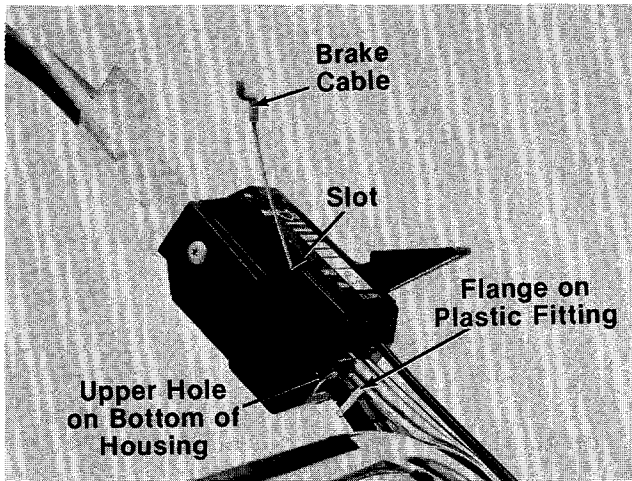

FIGURE 4.
5. Secure the other side of the handle with curved head bolt (B), lock washer (C) and hex nut (D).
- ← 6. Place the end of the brake cable into the upper hole on the bottom of the throttle control housing, and through the slot as shown in figure 4. The angle of the flange on the plastic fitting must be positioned as shown in the illustration. Be careful not to bend or kink the cable.